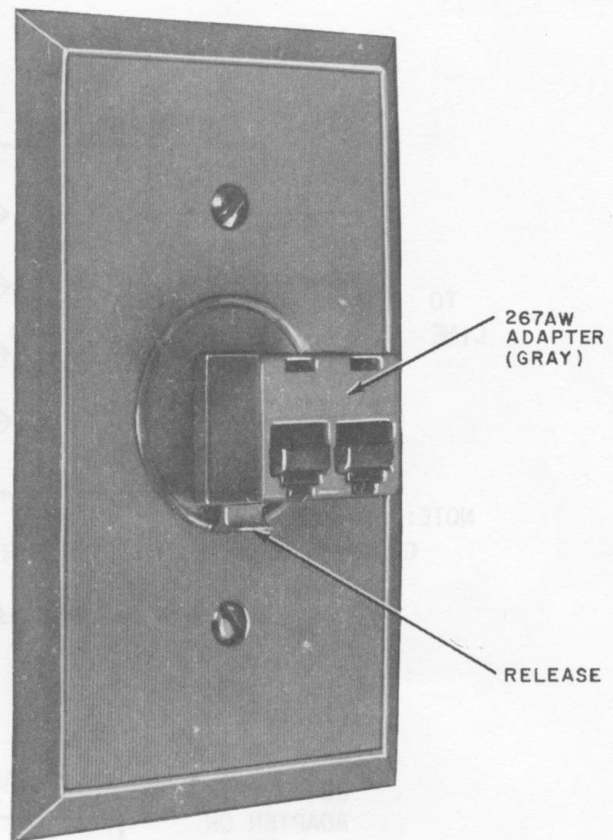

Fig. 2—267AW Adapter Mounted on 625-Type Connecting Block
2.02 USOC RJA2X: Uses a 267AW (Fig. 2) adapter to connect two modular jacks to one modular plug. Four leads are multipled to the same contacts in the plug and both jacks (Fig. 5). Tip and ring are always connected through to the multiple jacks. A and A1 or other leads will appear in the multiple jacks if wired into the existing jack. The 267AW adapter can also be mounted piggy-back on a 224AW or 225AW adapter if required. Adapter is furnished either by the telephone company or customer.